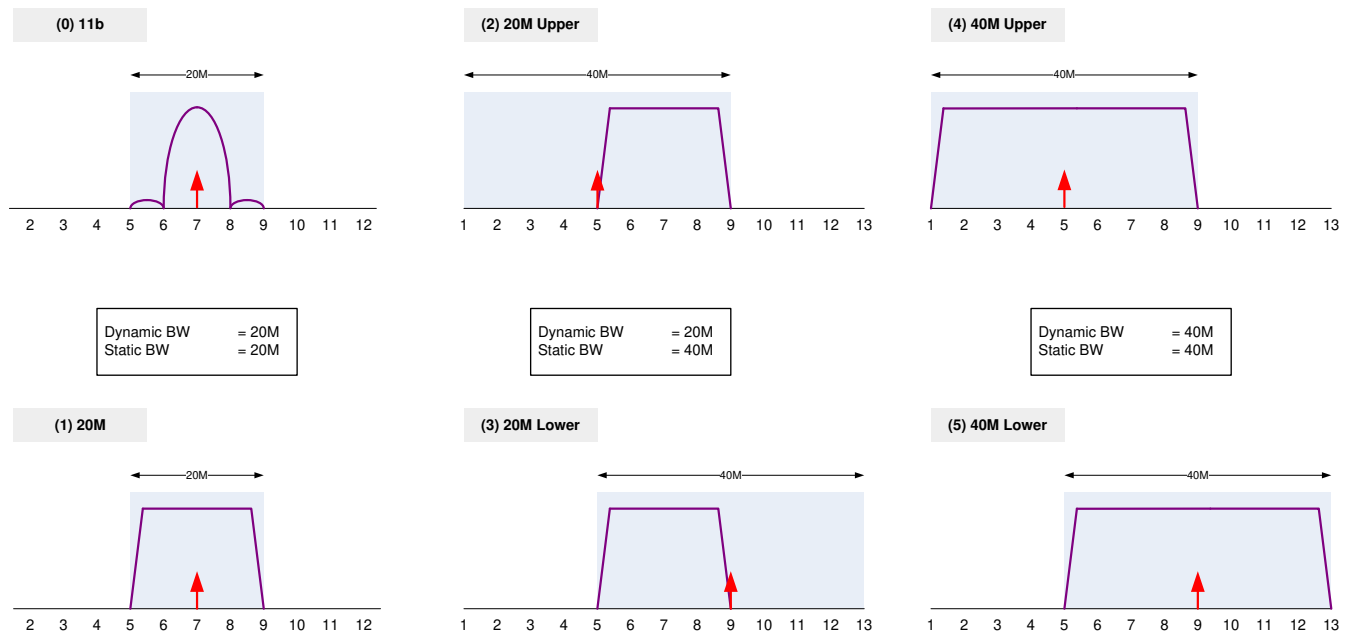

Figure 4-4. Packet Types for Channel 7
4. Select the channel bandwidth in the Channel area; click the 20M or 40M button. If the Channel BW is set to 40 MHz, the Primary list box becomes active. Select Upper or Lower channel. Figure 4-4 shows the packet types for Channel 7.